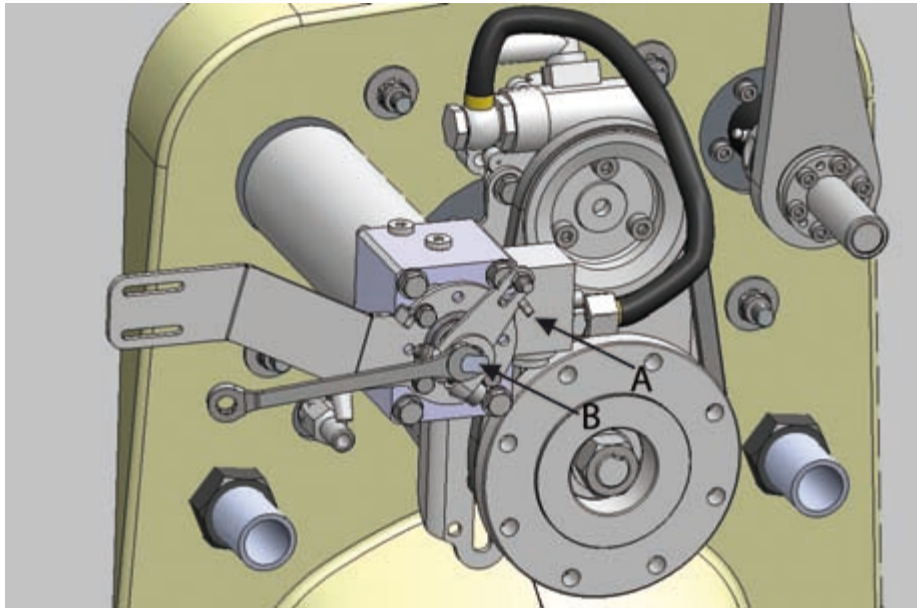

Figure 65. Operating shaft and limiter
3. Place the lever against the limiter on the shaft (figure 65, point A).
5. Using a wrench, turn the operating shaft (figure 65, point B) 13 mm clockwise so that the reversing deflector is down, blocking the jet flow.